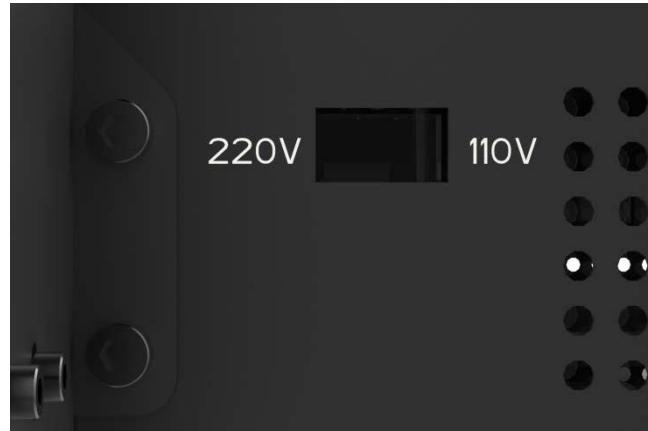

Figure 3
(1) Fig.3, select the correct voltage mode according to your local voltage ratings (110V/220V). The switch is inside the bottom left of the base and 220V is default. Allan keys can be used to move the switch inside.